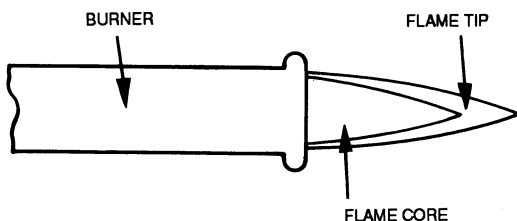

Fig. 5 — Proper Flame Appearance
5. Observe unit heating operation, and watch the burner flame with the access panel removed, to see if it is bright blue. If you observe a suspected malfunction, or that the burner flames are not bright blue, call your dealer. See Fig. 5. Some yellow flame may be present due to the panel being removed.